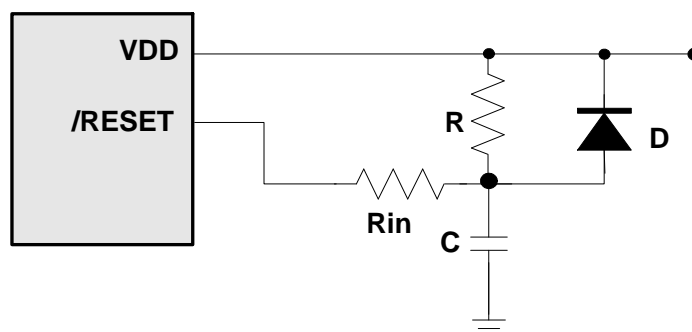

Figure 6-10 External Power-on Reset Circuit
This circuit implements an external RC to produce a reset pulse (see Figure 6-10). The pulse width (time constant) should be kept long enough to allow VDD to reach minimum operation voltage. This circuit is used when the power supply rise time is slow. Because the current leakage from the /RESET pin is  $\pm 5 \mu\text{A}$ , it is recommended that R should not be greater than 40K. In this way, the voltage at Pin /RESET is held below 0.2V. The diode (D) acts as a short circuit at power-down. The capacitor, C, is discharged rapidly and fully. Rin, the current-limited resistor, prevents high current discharge or ESD (electrostatic discharge) from flowing into Pin /RESET.